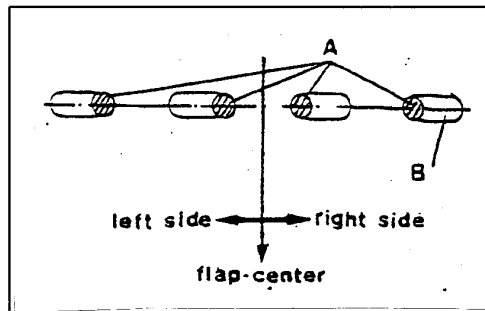

Figure 3
Refer to figure 3 for correct mounting position (A) of clips.